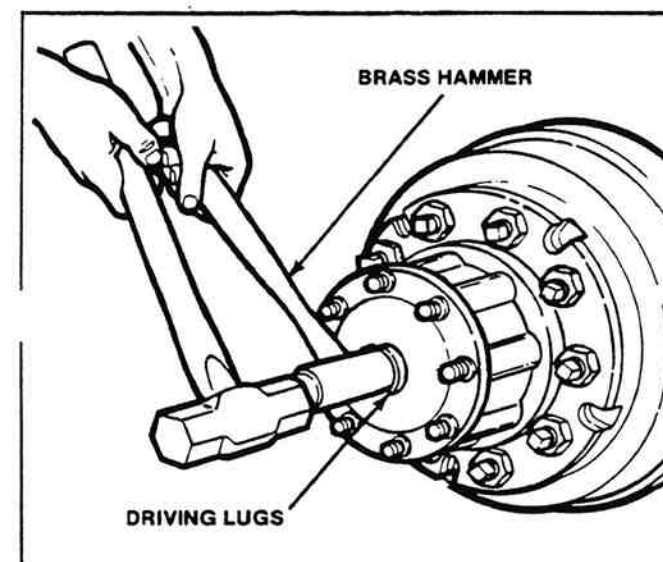

Figure 2-7. Loosening Shaft And Dowels.
- a. Hold a 1½-inch-diameter brass drift against the center of the axle shaft, inside the round driving lugs (Figure 2-7).